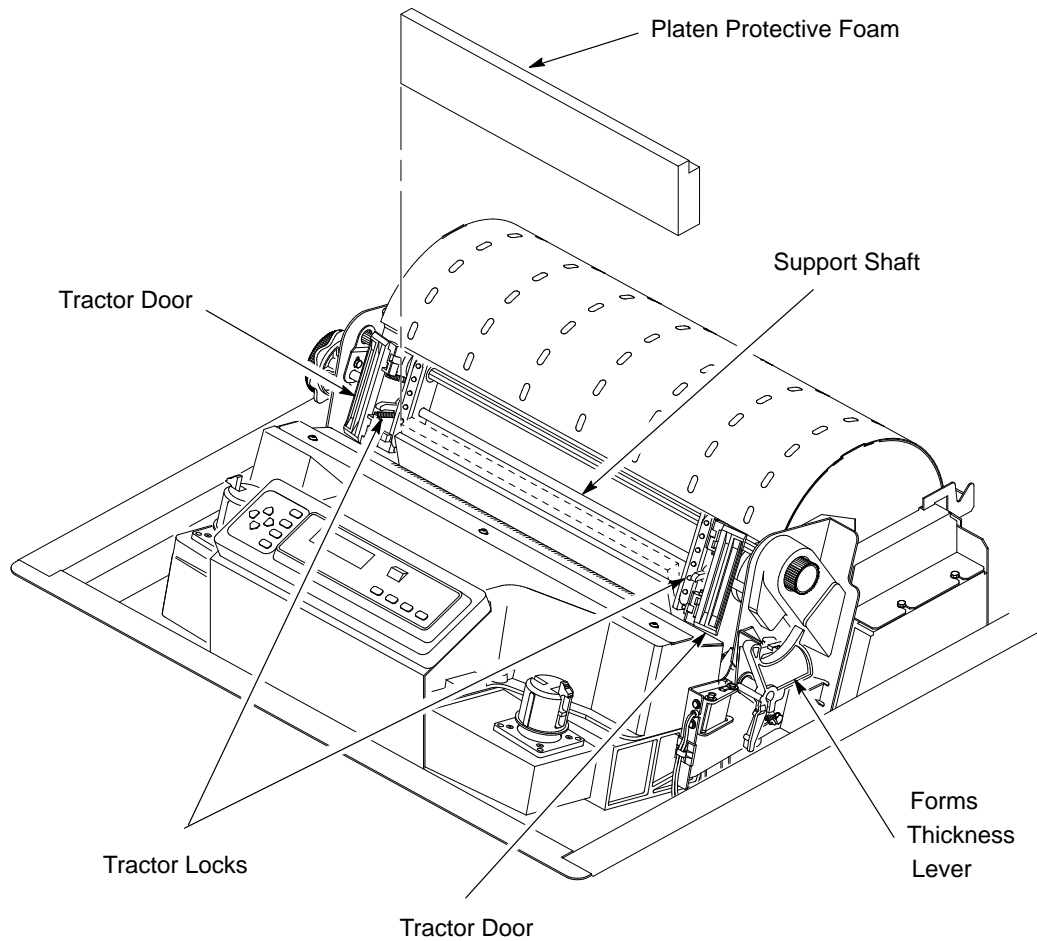

Figure 2–4. Removing the Platen Protective Foam
1. Open the tractor doors. Push the tractor locks down. Slide the tractors outward as far as they will go. (See Figure 2–4.) The forms thickness lever should be in the fully open position.